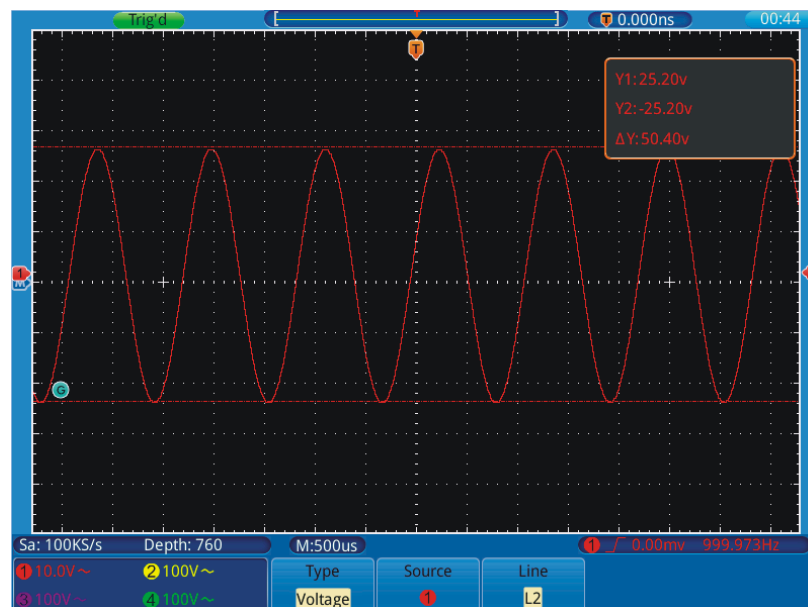

Figure 32. Waveform of Voltage Cursor Measurement.
- 2 Select **Source** in the bottom menu; select ① in the left menu.
- 4 Select **Line** in the bottom menu; select **L1** in the right menu. The **G** icon will appear beside the dotted line of L1, represents you can turn the **G** knob to adjust the position of L1. Select **L2** to adjust the position of L2. Select **L1&L2** to adjust the two cursors together. The cursor measure window at the top right shows the present position of two cursors and the absolute value of voltage difference (see Figure 32).